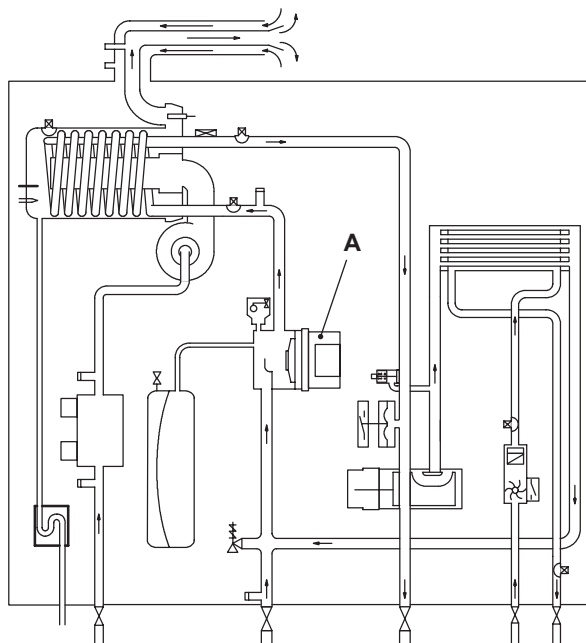
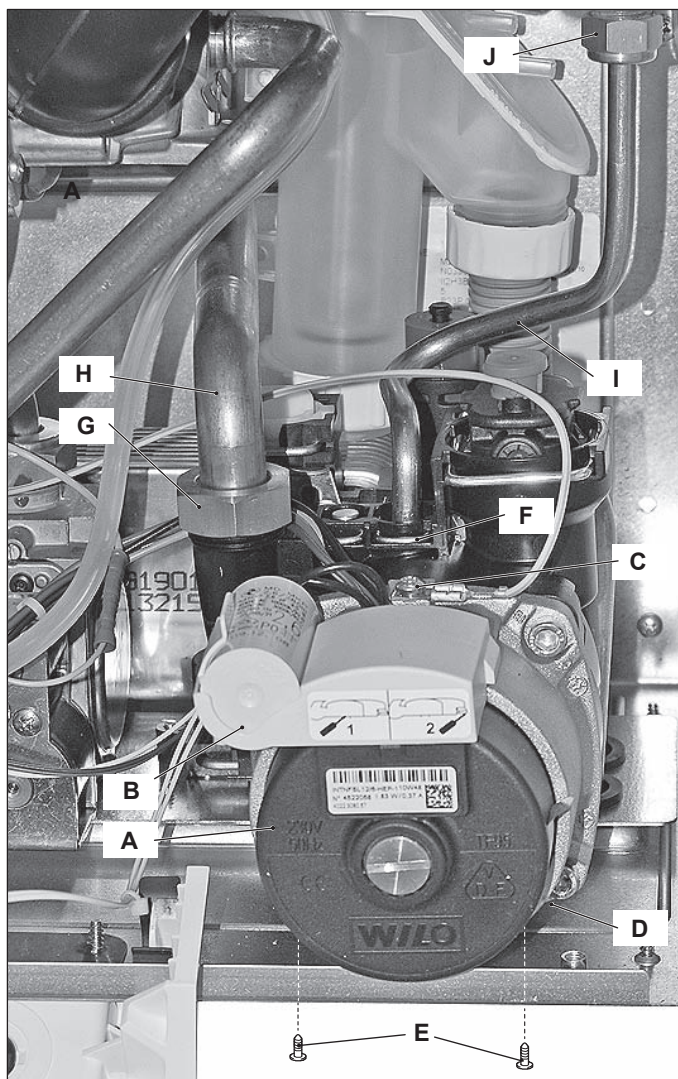

Figure 7.1
Figure 7.3
The pump A in Figure 7.1 and Figure 7.3 has the function of making the water in the main circuit circulate through the main condensing heat exchanger and therefore through the c.h. system (during the c.h. function) or through the secondary heat exchanger (during the d.h.w. function).
With the boiler off, remove the front panel and disconnect the connector B (Figure 7.3) following the indications given on the connector box.
- 3 Disconnect the connector B (Figure 7.3) following the indications given on the connector box.
- 2 Disconnect the connector B (Figure 7.3) following the indications given on the connector box.